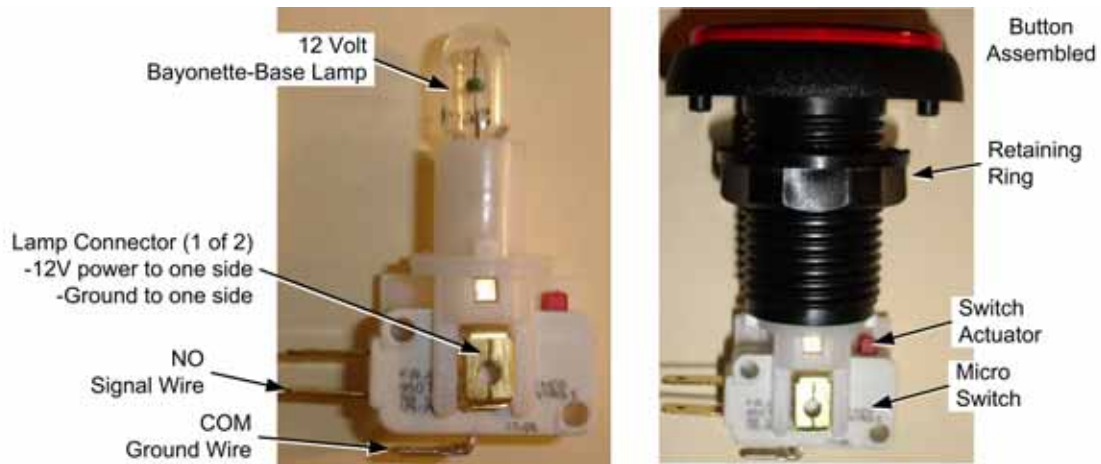

Figure 39. Start Button Assembly
The Start and 3D buttons are illuminated with 12-volt lamps. Refer to Figure 39 and perform the following steps to replace the buttons, lamps, and micro switches:
7. When connecting the wiring to the micro switch and lamp, refer to the labels on the wires and Figure 39 to make sure the connections are correct.